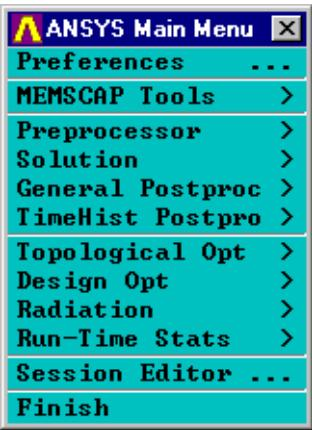

Figure 14: ANSYS Main menu
- In the ANSYS Main menu, click **MEMSCAP Tools** (see Figure 14).